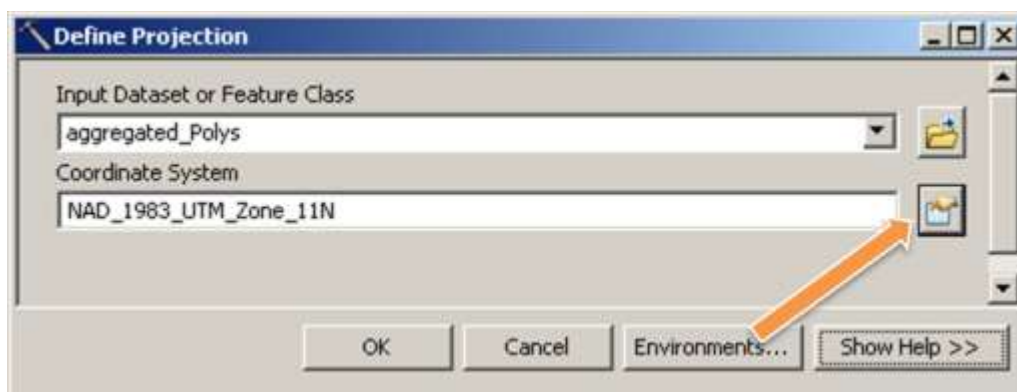
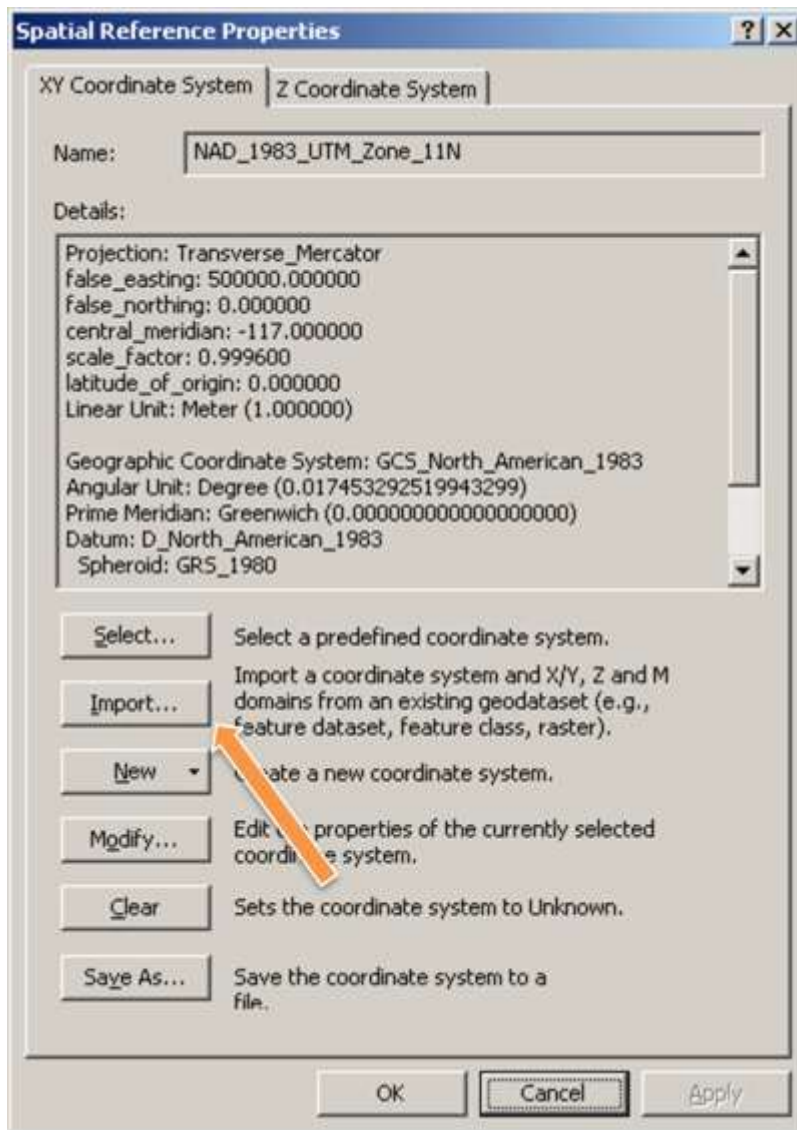

Figure 5-14—Define Projection form.
Figure 5-15—Spatial Reference Properties form.
- 6) Define the spatial reference (**ArcToolbox→Data Management Tools→Projections and Transformations→Define Projection**, fig. 5-14).
- a) Click the hand pointing to the paper button (see fig. 5-14) to open the **Spatial Reference Properties** form (fig. 5-15).